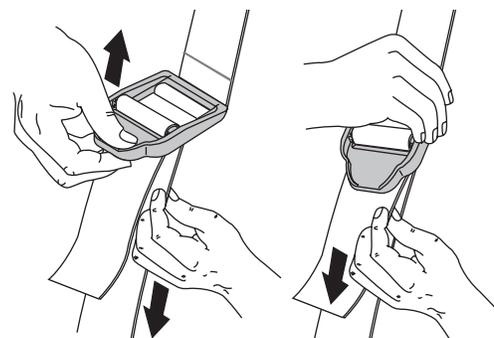

Fig. 9
4. While standing in the operating position, adjust the length to fit the operator's size. Pull the tab to lengthen, pull the strap to shorten (Fig. 9).